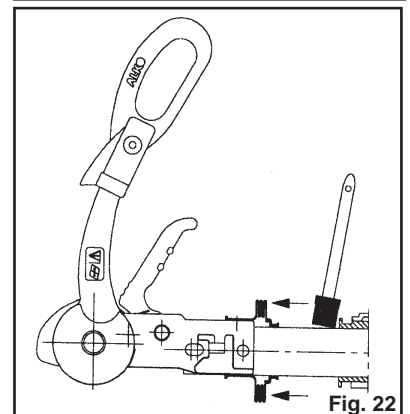

Fig. 22
b) Lubricate the drawshaft sleeve via the grease nipples. In addition, push the gaiter forward and grease (DIN 51 825 KTA 3K) the exposed part of the shaft (Fig. 22).